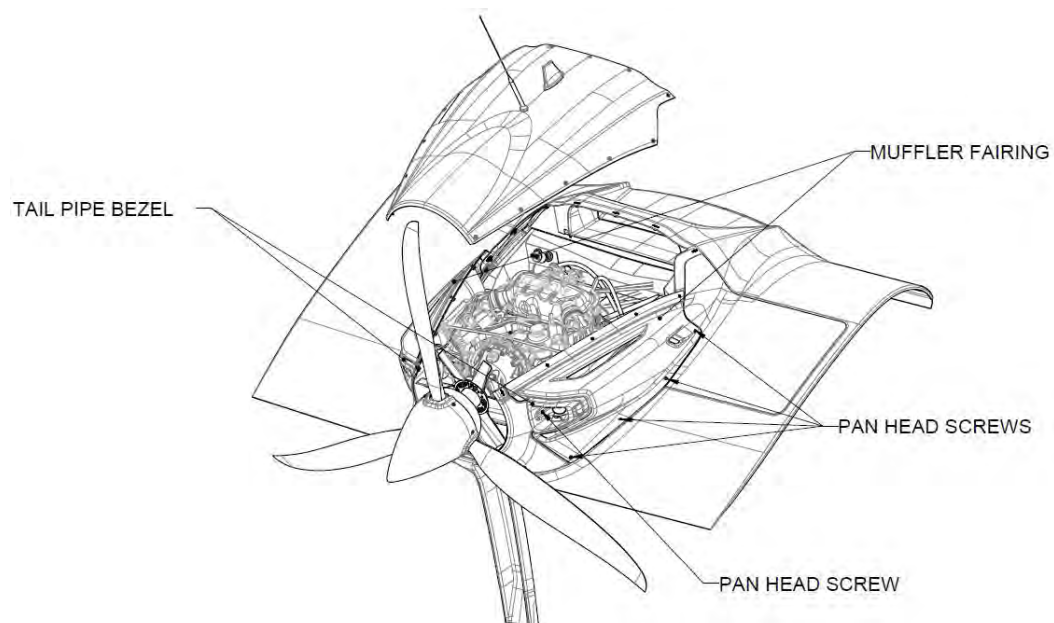

FIGURE 17-5
4. Remove the LHS and RHS muffler fairing with the tail pipe bezel by removing nine Torx button head screws using a #20 Torx driver. (See Figure 17-5.)